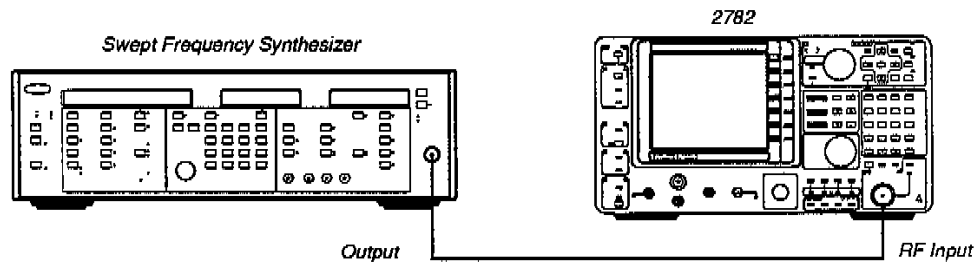

Figure 2-8. Test Equipment Setup for Out of Band Response and 1 dB Gain Compression Checks
- b. Connect the swept-frequency synthesizer through a 50 Ω cable to the 2782 (as shown in Figure 2-8).
- a. The swept-frequency synthesizer should still be connected to the 2782. If not, connect the synthesizer to the 2782 RF INPUT connector through a 50 Ω cable (as shown in Figure 2-8).